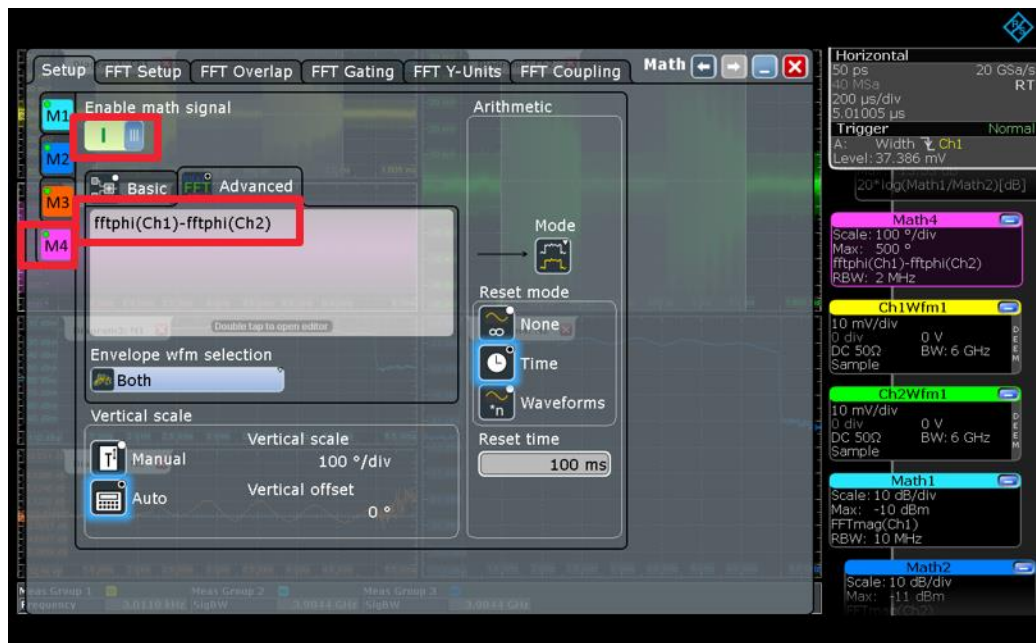

Fig. 3-8: Formula for the phase difference of RX 1 and RX 2
- Create the formula (phase difference of FFT Channel 1 and FFT Channel 2) with the *Formula Editor* under the *Advanced* tab as shown in Fig. 3-8.